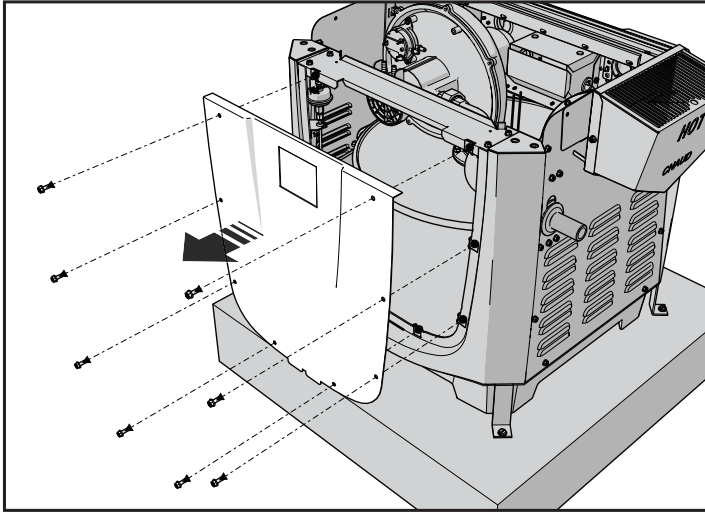

Figure 6. Remove Rear Panel
6. Remove eight (8) screws to take off heater rear panel (Figure 6).